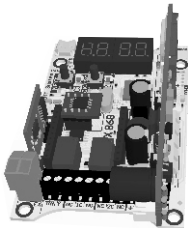

Fig.7. FLEX receiver with installed F-GSM card.
- install the F-GSM card in the 36-pin socket of the FLEX receiver (fig. 7)